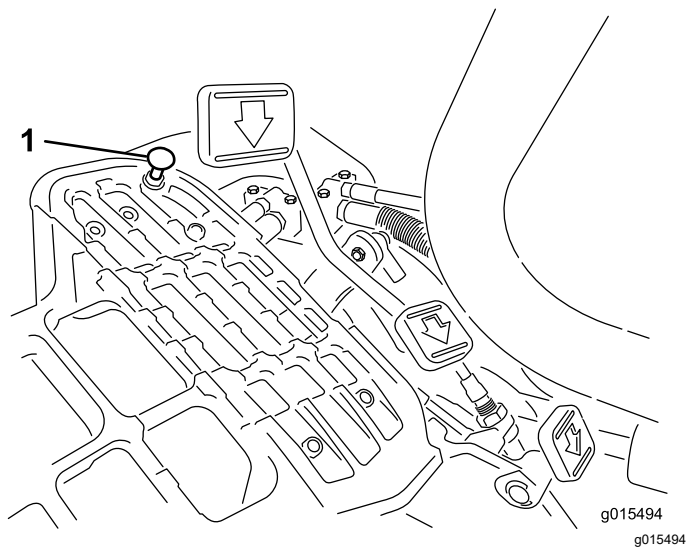

Figure 38
To obtain the maximum-transport speed, put the functional control lever in the TRANSPORT position and press down on the traction pedal. If the pedal contacts the stop (Figure 38) before you feel tension on the cable, perform the following adjustment procedure:
1. Put the functional-control lever in the TRANSPORT position and loosen the locknut securing the pedal stop to the floor plate (Figure 38).